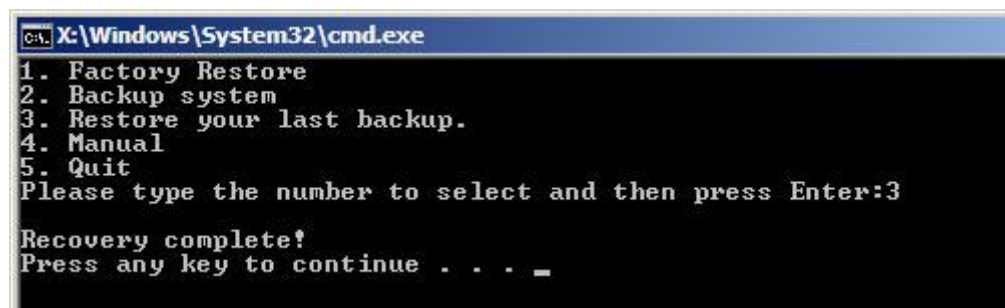

Figure A-41: Restore System Backup Complete Window
Step 3: The screen is shown as in **Figure A-41** when backup recovery is completed.